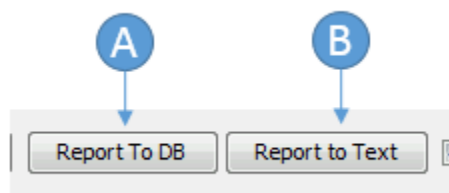

Figure 8-1 Auto-PERCIST™ Exporting Results
To export the data to an external database, the user can click the **Report to DB** button (Figure 8-1) (A) which will transfer the displayed summary data as well as a much more extensive selection of data to a pre-configured SQL database. A similar exportation of the Auto-PERCIST™ processing results can be exported into a text file, suitable for importing into a spreadsheet, by clicking the **Report to Text** button (Figure 8-1) (B).